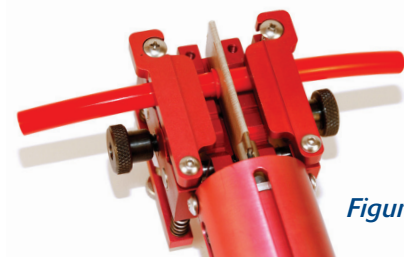

Figure 3
- Allow the heater blade to melt the belt until the desired bead forms (see Figure 3). (1 to 1.5 minutes for 3/8" or 9.5mm belting)